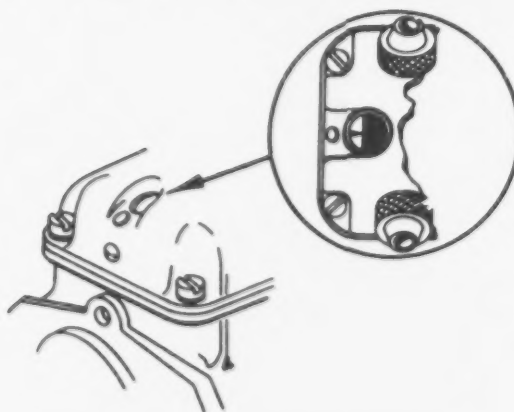

Figure 5-35. Magneto timing marks
(4) Turn timing light switch on, then turn rotor in direction of normal rotation. As timing marks align, breaker points should just open and timing light should come on.
(5) If breaker points do not open when timing mark on magneto gear and stationary gear align (figure 5-35), adjust breaker points as follows:
When checking timing of installed magnetos that have an impulse coupling, turn the crankshaft of engine in normal direction of rotation to No. 1 cylinder top center position. As this point is reached, impulse coupling will act. This action can be heard as a clicking noise. Action of the impulse coupling turns the magneto to a position too far advanced for checking contact breaker points. Therefore, turn engine crankshaft backwards slowly until timing mark on chamfered tooth of large distributor gear just passes by pointer as seen through timing window in front of the magneto cover. Then connect timing light to magneto and turn crankshaft forward very slowly until contact points are just starting to open. At this position, timing marks should line up as shown in figure 5-35. (This time the impulse coupling will not act, as the turn backwards will not engage coupling drive pins.)
(4) Remove breaker assembly covers from right and left magnetos.
(5) Connect respective timing light red leads to primary breaker points of right and left magnetos.
(6) Turn timing light switch ON.
(7) Turn ignition switches ON.
(8) Apply an even and equal torque to each cam retaining screw in direction opposite normal rotation to remove gear train backlash. While holding backlash out, turn crankshaft in direction of normal rotation until breaker points just open as indicated by timing lights coming on. Breaker point of both magnetos should open simultaneously; marks on magneto gear and magneto housing should align and crankshaft should be at correct timing position.
(9) If crankshaft is not at proper degree (25 degrees) before top dead center when breaker points open and marks align, as seen through magneto timing window (figure 5-35), magneto is not correctly timed to engine. Retime magneto to engine as outlined in step e and recheck timing.
(10) If marks on magneto gear and housing do not align when breaker points just open, adjust breaker points as outlined in step c. Recheck magneto-to-engine timing and retime if necessary.